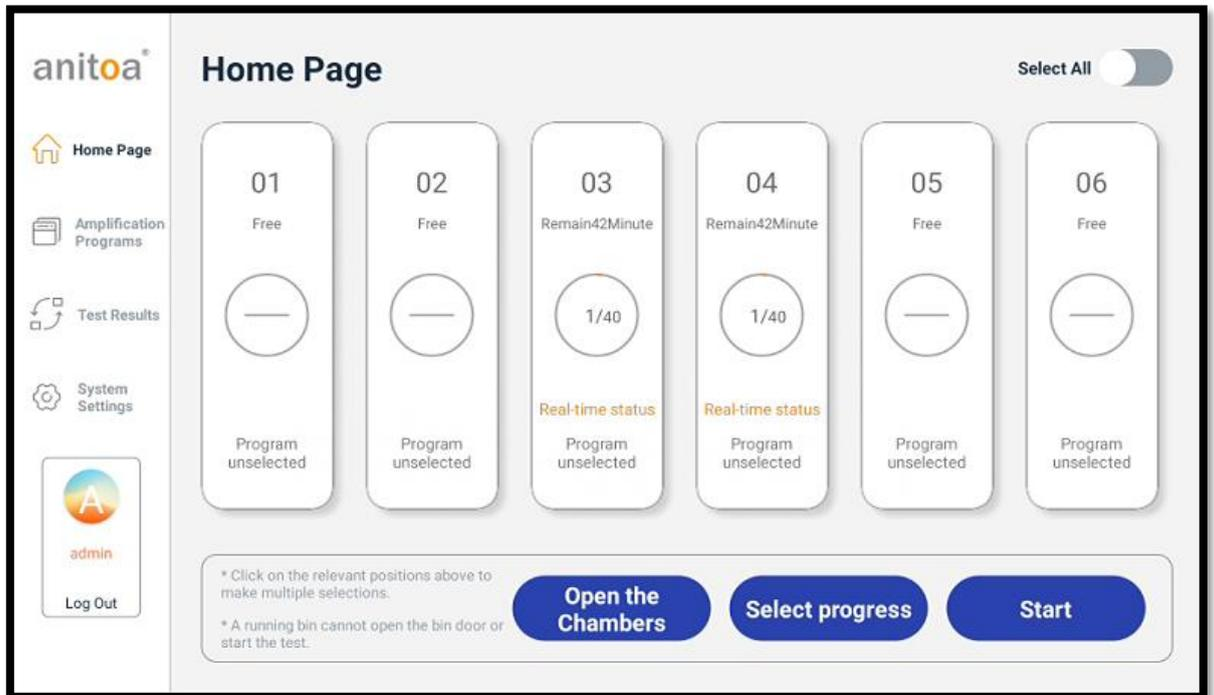

Figure 4-2-3 Multi-chamber mode
- 3) Open the chamber lids: you can click to select any chamber, then open the bay lid, and click below the bays to select the amplification program for the experiment. You can also click the all-select function at the top right to open all bays at once. (The display of idle or complete indicates that the bay is ready to run, Figure 4-2-3 for the multi-chamber mode)